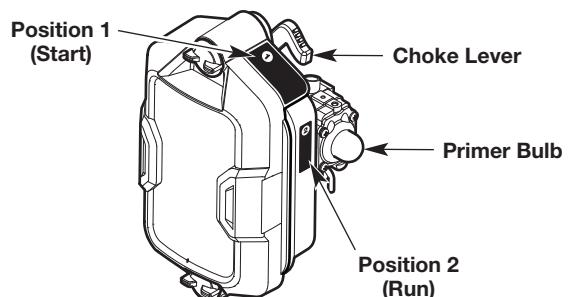

Fig. 8
1. Slowly press and release the primer bulb **10 times** (Fig. 8). If fuel cannot be seen in the primer bulb, press and release the primer bulb until fuel is visible.
2. Move the choke lever to **Position 1 (start)** (Fig. 8).
6. Move the choke lever to **Position 2 (run)** (Fig. 8).
IF... the engine hesitates, keep the choke lever in **Position 2 (run)** (Fig. 8) and continue the warm-up.